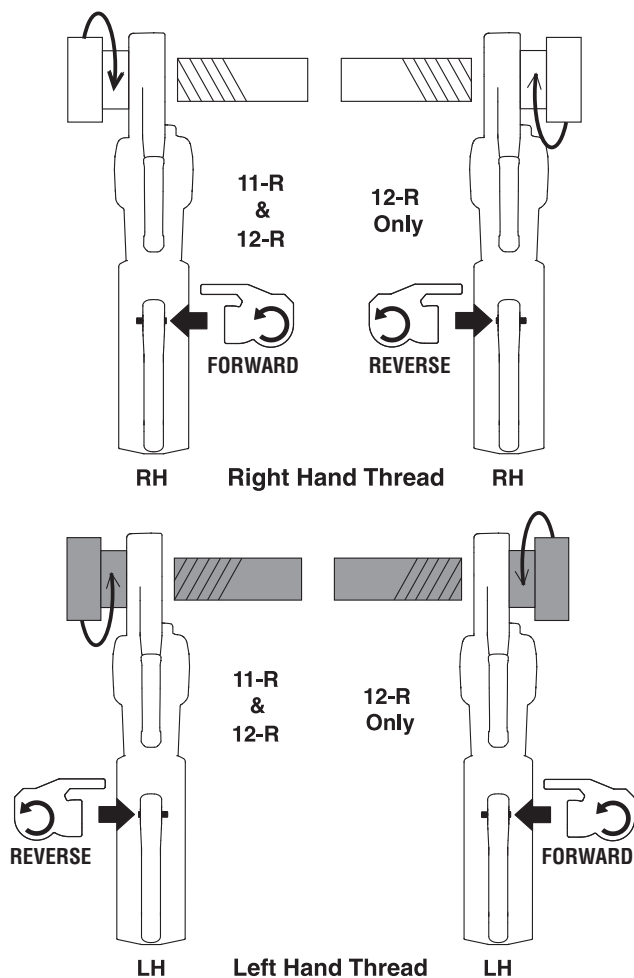

Figure 9 – Forward/Reverse Slide Switch/Die Head Orientation
7. Position the power drive Forward/Reverse Slide Switch for the desired right or left hand thread. See *Figure 9*.